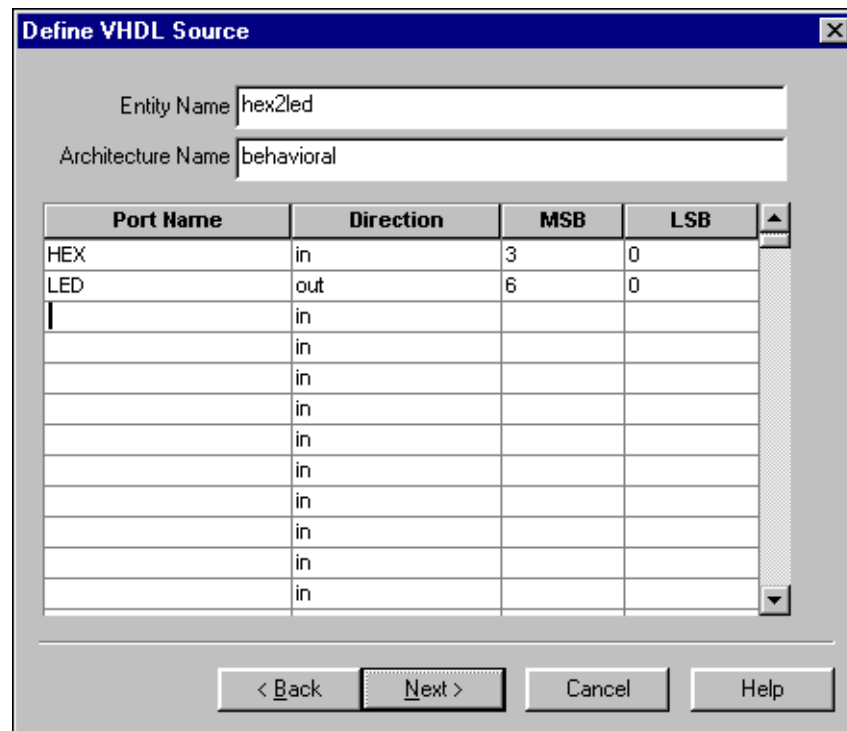

Figure 2-5: New Source Wizard
3. In the MSB field enter **3**, and in the LSB field enter **0**. Refer to Figure 2-5.